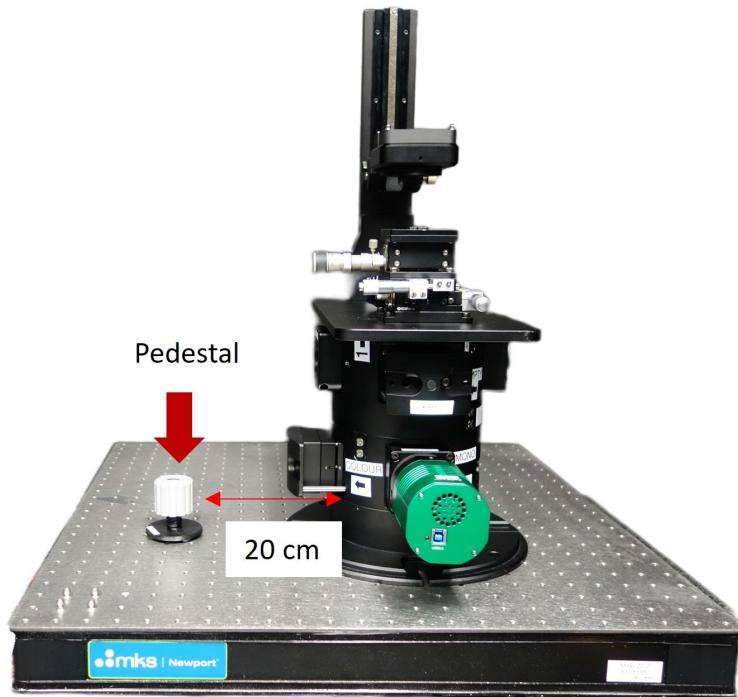
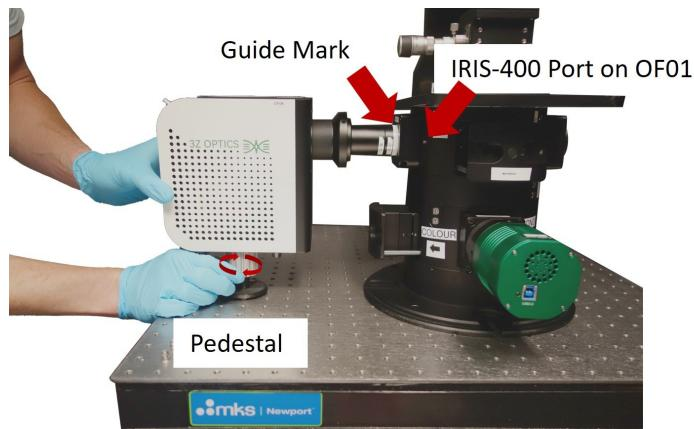

Figure 11: Placing the pedestal.
Figure 15: IRIS-400 supported by the pedestal and coupled to the fluorescence port of the Traveller.
2. Remove the pedestal (OF08) from the larger pelican case (C2). Place the pedestal (OFO8) on the working surface approximately 20cm to the left of the IRIS port on the openFrame OF01 (Figure 11). The pedestal will support the IRIS-400 once installed, as shown in Figure 15.
7. Insert OF07 into the openFrame OF01. This will couple the IRIS-400 to the openFrame. Insert the tube only as far as the guideline mark (do not exceed). The pedestal (OF08) should be underneath the IRIS-400 main body. Rotate pedestal (OF08) to adjust the pedestal height until it gently supports the IRIS-400 (Figure 15). Rotate OF08 either anti-clockwise to raise or clockwise to lower the pedestal height. Once complete, the mounted IRIS-400 should resemble the setup in Figure 15.